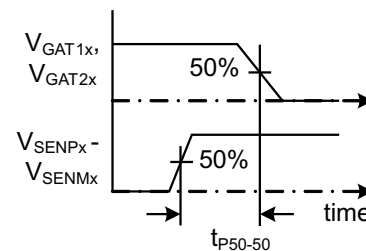

Figure 3. t_{P50-50} Definition
(3) See Figure 3 for timing definition.